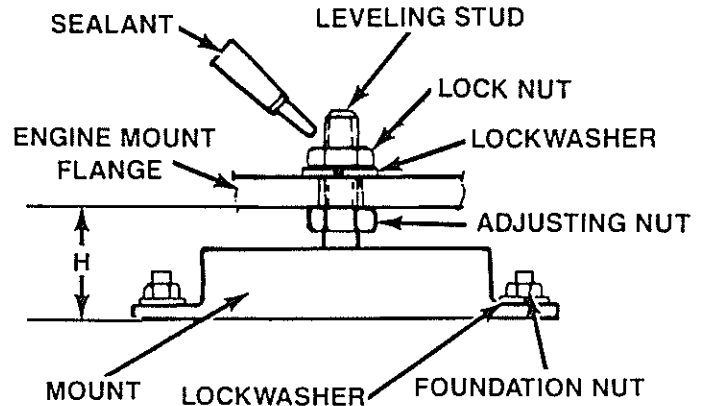

Figure 5-10 Engine Mount Installation
1. See Figure 5-10. Remove old mount.